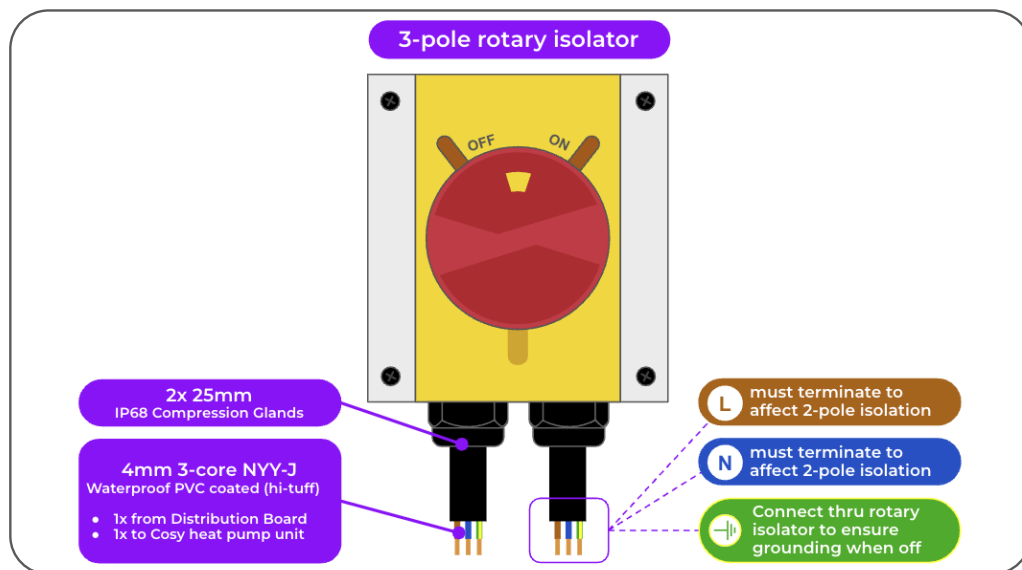

Figure 9.11 - Isolator Wiring
3. Feed power cabling through the M25 cable gland in the installer wiring plate and into the cable channel. See Figure 9.11